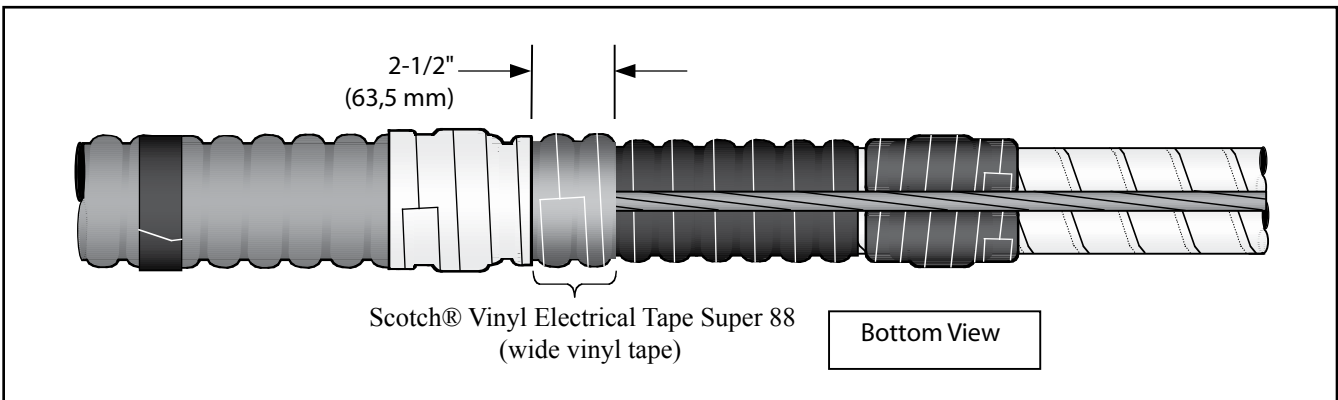

Figure 5
- 2.8 Bind cable ground wire with four half-lapped layers of Scotch® Vinyl Electrical Tape Super 88 (wide vinyl tape) (Figure 5). Limit width of tape wrapping to approximately 2-1/2" (63,5 mm).